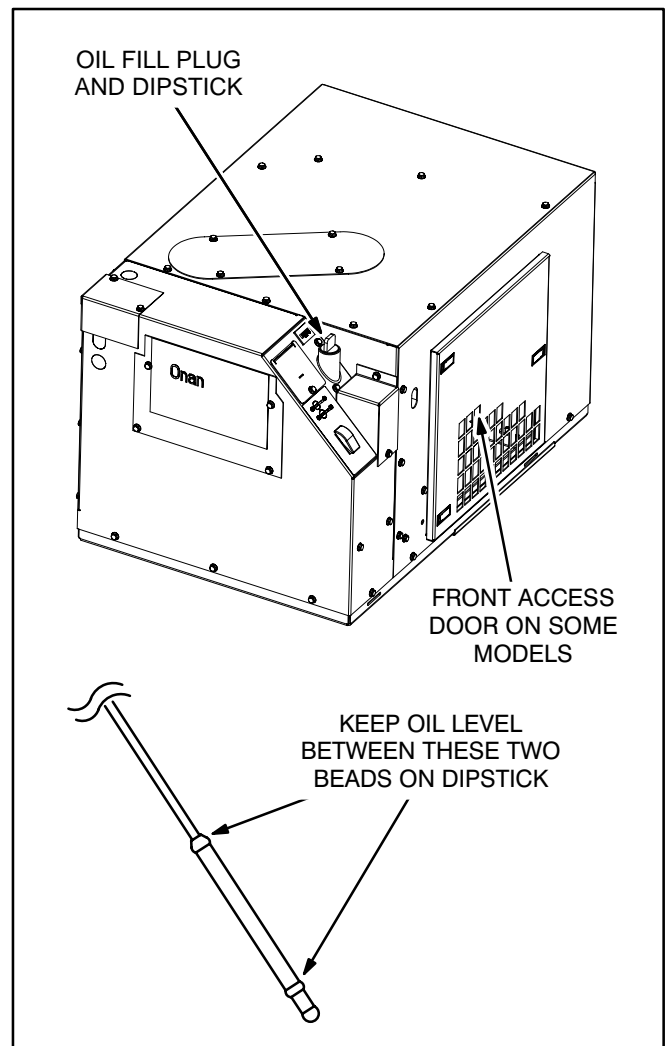
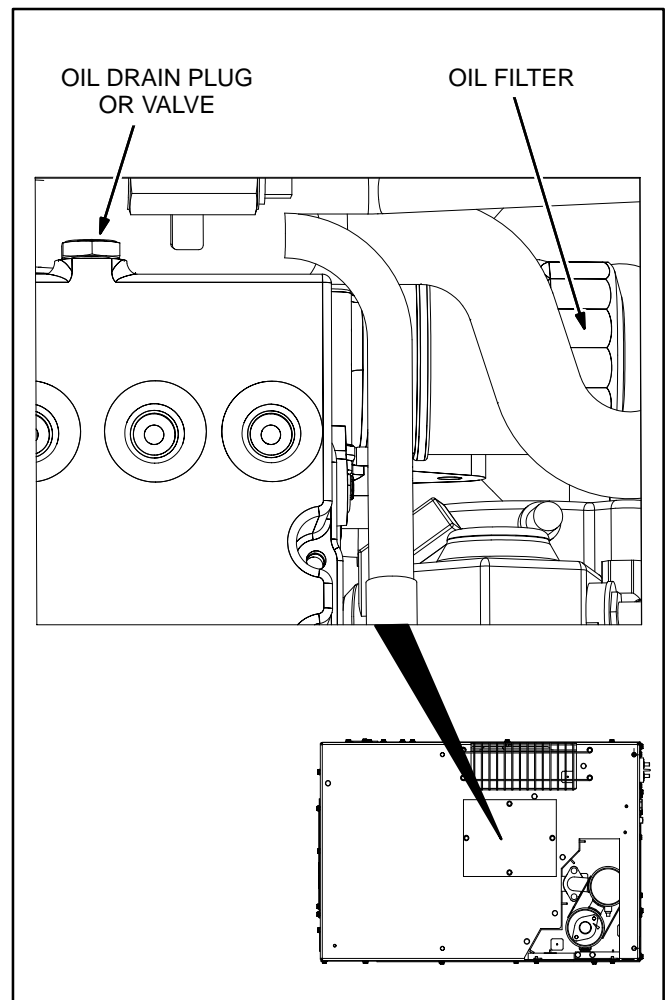
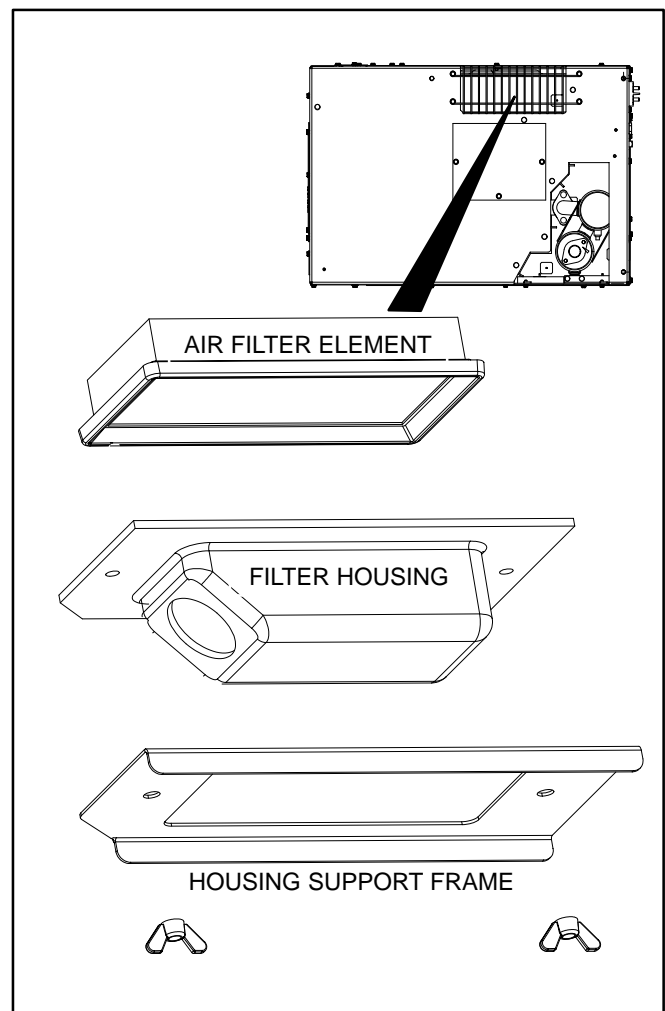
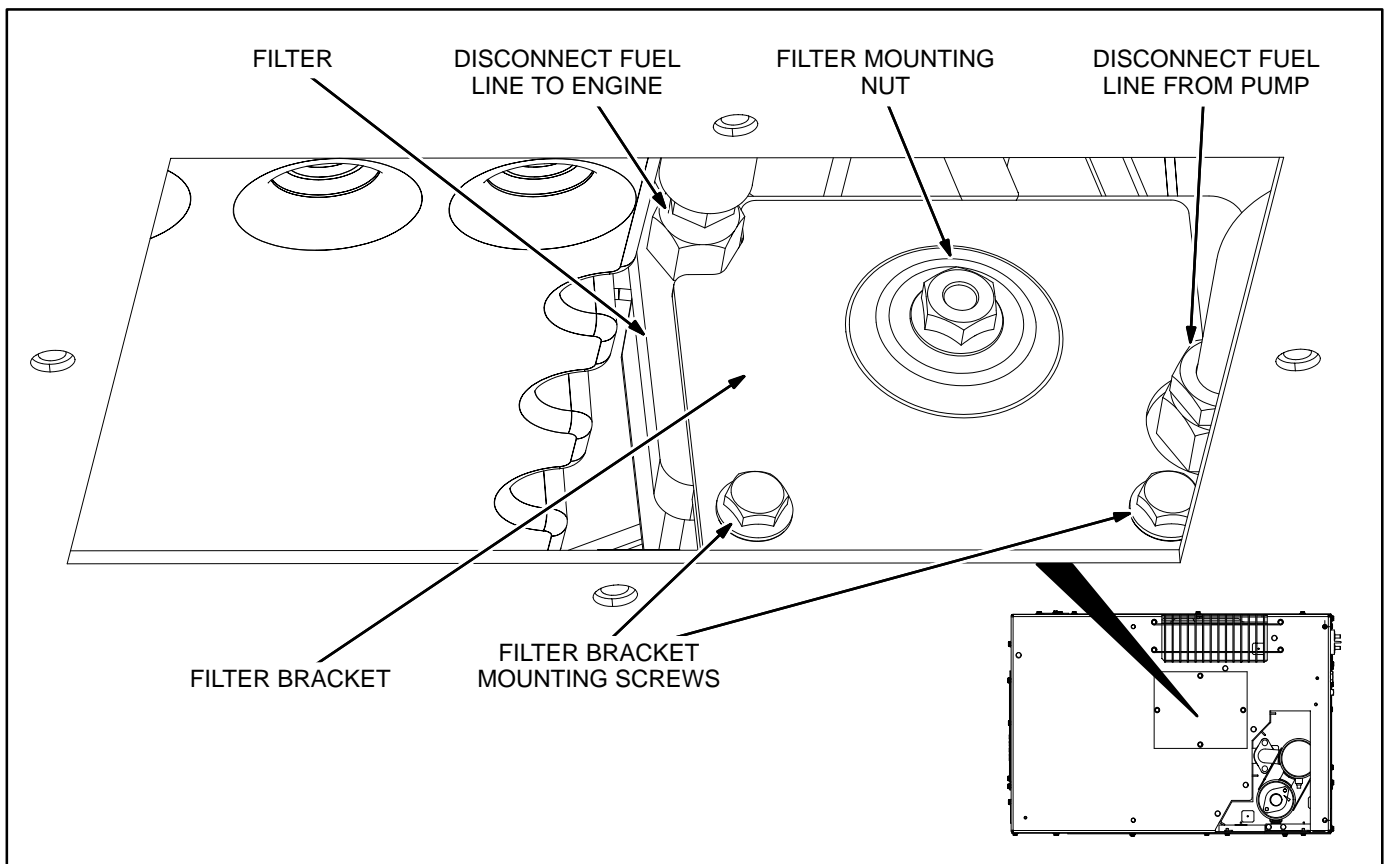

FIGURE 3-1. OIL FILL NECK AND DIPSTICK
FIGURE 3-2. OIL DRAIN PLUG AND OIL FILTER
FIGURE 3-3. AIR FILTER
FIGURE 3-5. FUEL FILTER
1. Pull the plug and dipstick out of the oil fill neck (Figure 3-1). The plug may be difficult to pull straight out. It is easier if you tilt the plug in its socket while pulling out. Wipe off the dipstick and thread it back into the fill neck and seat the plug, which snaps into its socket. Remove the plug and dipstick again and check the oil level on the dip stick.
3. Depending on the installation, remove the bottom maintenance access cover (Figure 3-2) or front access door (Figure 3-1) and place a pan under the oil drain outlet.
Depending on the installation, remove the protective grille below the air filter (Figure 3-3) or the front access door (Figure 3-1). Then unscrew the two (2) wingnuts and pull away the housing support frame, housing and filter element.
See Table 3-1 for scheduled fuel filter replacement. A dirty fuel filter may be the cause of a failure to start. Depending on the installation, the fuel filter is accessible through the bottom maintenance access cover (Figure 3-5) or front access door (Figure 3-1) and inner cover.